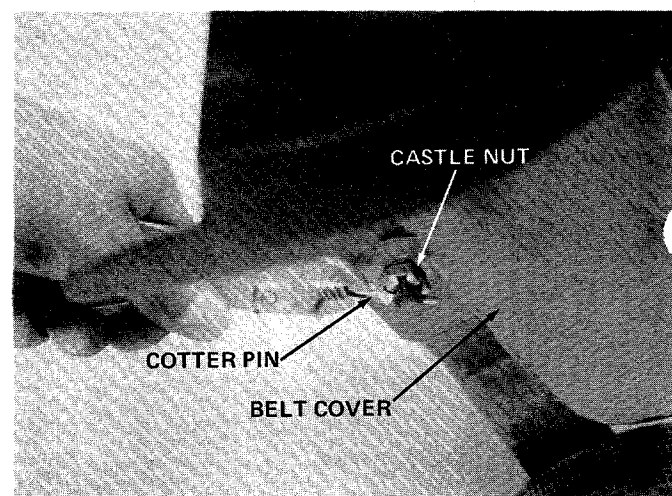

FIGURE 14.
2. Remove the cotter pin securing the castle nut on the bottom of belt cover. See figure 14.